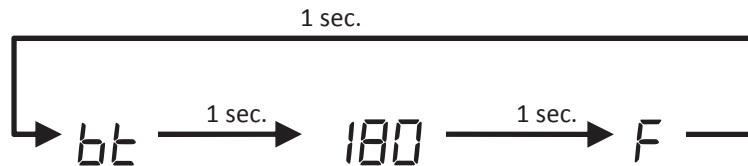

FIGURE 12.3: TYPICAL OPERATING MODE DISPLAY (BOILER TEMP SHOWN)
2. Operating Mode - Provides additional information about the current status of the boiler. Operating mode is entered by pressing the **I** button shown in Figure 12.0. When this button is first pressed in Status mode, the display will alternately display *bt* and the current boiler water temperature as shown in Figure 12.3. Pressing the **I** button again will display the next line item shown in Table 12.2. In the same manner it is possible to advance through all of the “parameters” shown in Table 12.2. To return to Status mode, press **I** repeatedly until *SEH* once again appears on the display. Alternatively, the control will return to Status mode if no key is touched for 1 minute.
In operating mode, holding either the ↑ or ↓ button while viewing a given parameter will keep the display on the actual reading. For example, pressing ↑ while reading boiler temperature as shown in Figure 12.3 will keep the display on 180 for as long as this button is held. This makes it easier to view readings “live” if they are changing rapidly